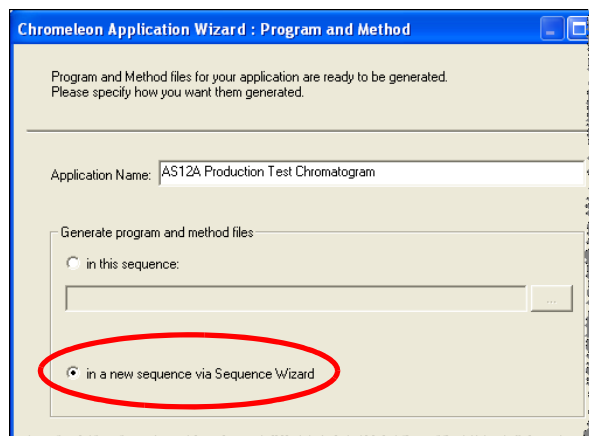

Figure 35. Example Application Wizard: Program and Method
5. Under **Generate program and method files**, click **in a new sequence via Sequence Wizard** (see Figure 35).